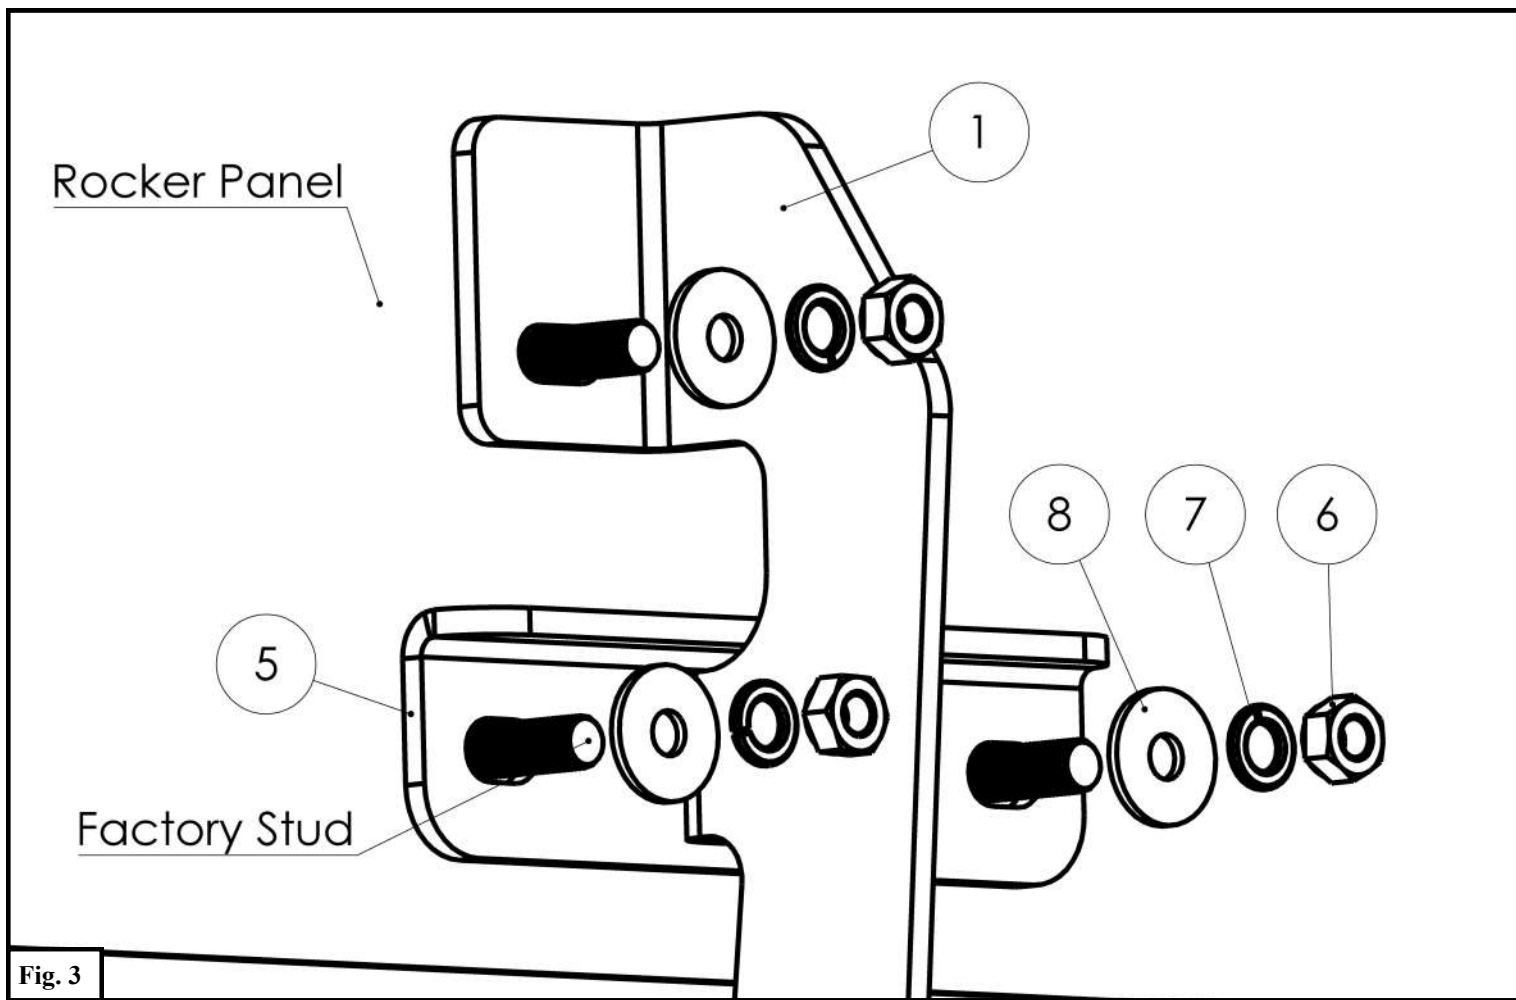

Fig. 3
- At the rear mounting location, loosely install a Mounting Bracket A (1) with preassembled Universal Bracket (5) using the supplied M8 hardware (6-8). See **Figure 3**.
See **Figures 3 & 5**.